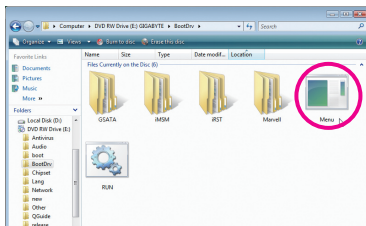
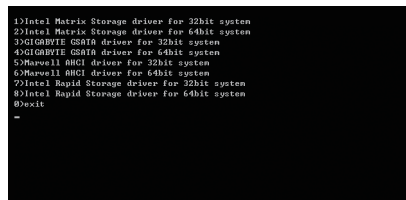

Figure 2
Figure 3
- 2: From your optical drive folder, double click the **Menu.exe** file in the **BootDrv** folder (Figure 2). A Command Prompt window will open similar to that in Figure 3.
- 3: Insert the blank formatted disk. Depending on the operating system to be installed, select the controller driver by pressing the corresponding letter from the menu and press <Enter>. For example, from the menu in Figure 2,